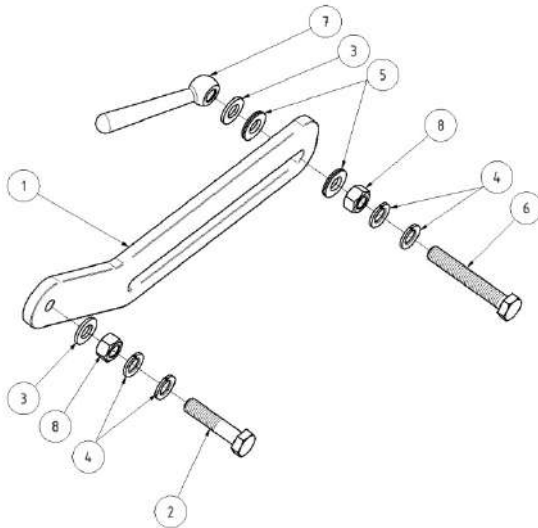
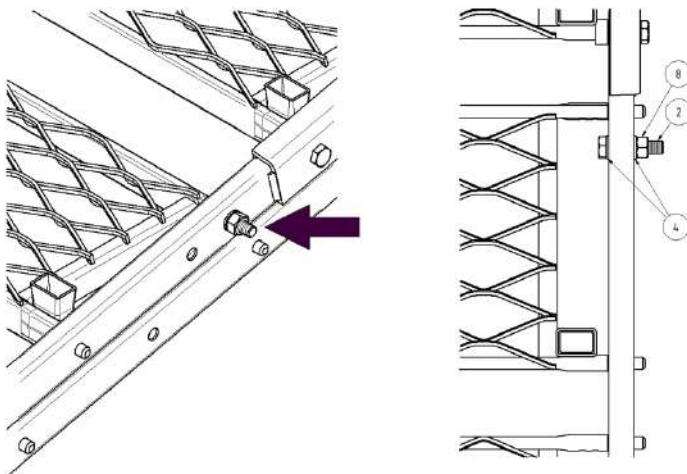
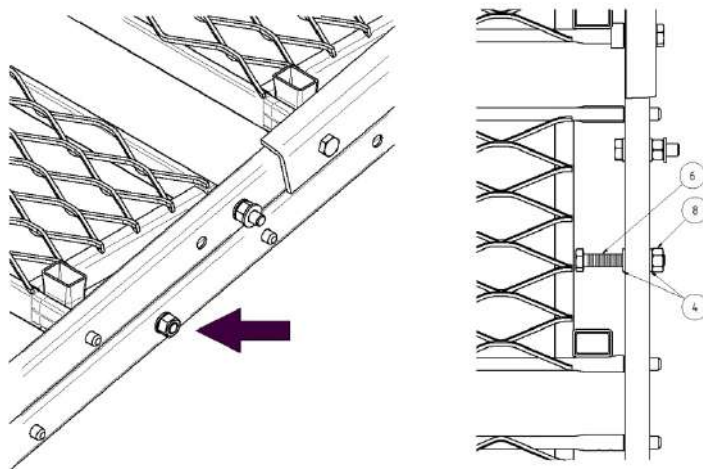

Figure 1. Content, Combisafe Site Stairway Lock.
Figure 3. Mounted screw.
Figure 5. Lower screw is attached to side rail.
1. Mount the upper M10x45 screw on the stair with washers and nut. Find the right components with help from the numbered balloons in figure 3 and compare them to figure 1. It is important that the screws are positioned in the correct holes due to their different length. Note that the shorter screw shall be placed in the upper side rail. Put one split-ring washer (POS 4) on both sides of the side rail.
- Mount the lower M10x65 screw on the lower side rail of the stair with washers and nut. Find the right components with help from the numbered balloons in figure 5 and compare them to figure 1. Put one split-ring washer (POS 4) on both sides of the side rail.
NOTE ! Do not tighten the nut fully yet, only so that the screw end is flush with the nut (See right picture in figure 5).